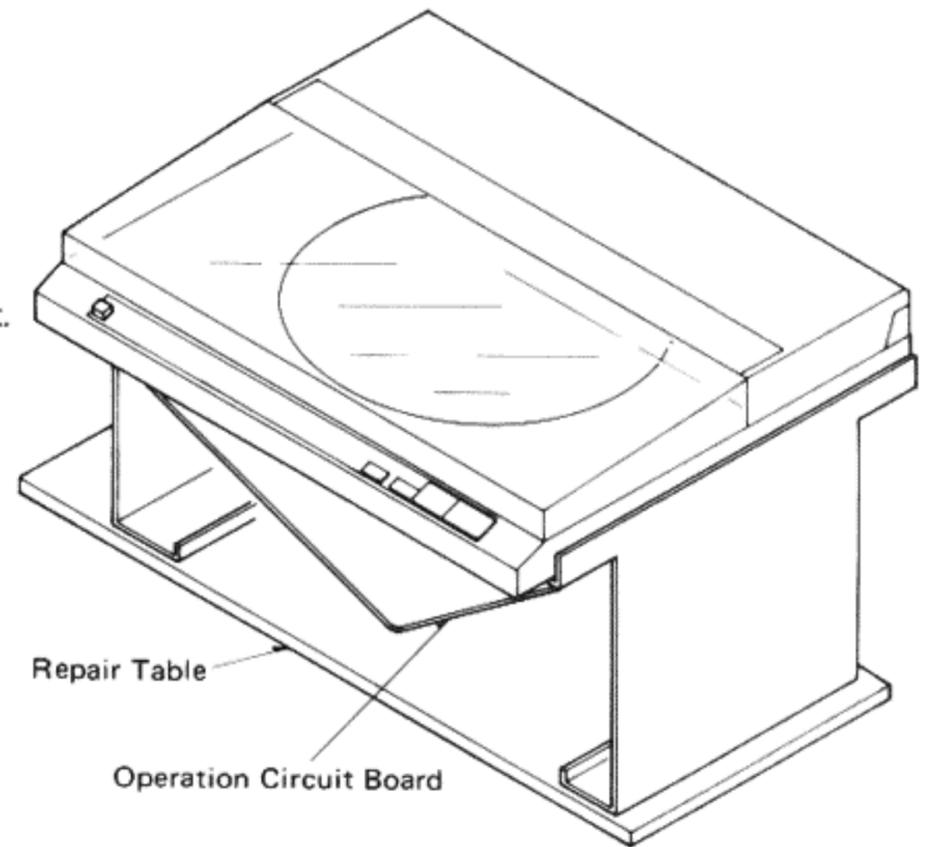

Fig. 5
- ① Remove the cover.
- ② Remove the rubber.
- ③ When adjusting the servo gain, set the tonearm in the direction of the arrow.
1. How to use the repair table (Fig. 5)
- ① Remove the bottom board.
- ② Remove the operation circuit board and connect the P.C.B. ground terminal to the chassis (Stator frame.)
- ③ Put the unit on the repair table.
- ④ Fit the turntable platter and put on the turntable mat.
- ⑤ Put on the record and check the circuits from under the unit.